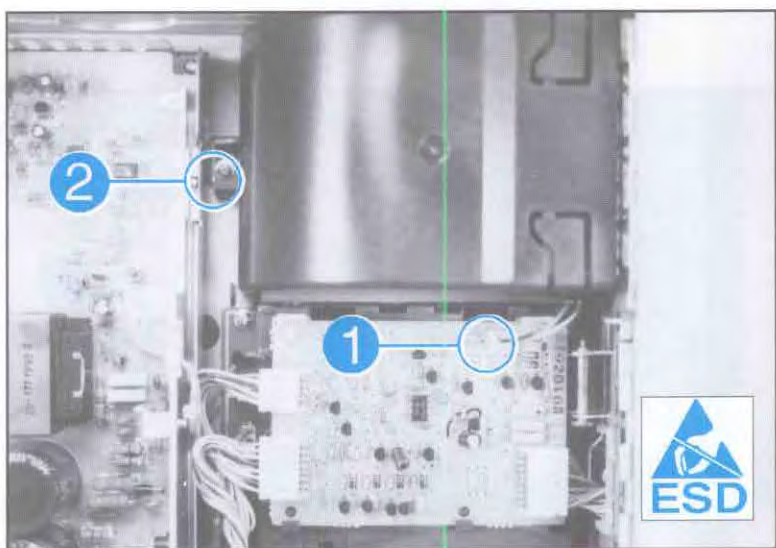

Figure 6-18. Fan FM1
4. Unplug the (1) connector (J204) from the Sensor PCA (see Figure 6-18, callout 1).
5. Remove the (1) screw securing Fan FM1 and remove the fan (see Figure 6-18, callout 2).